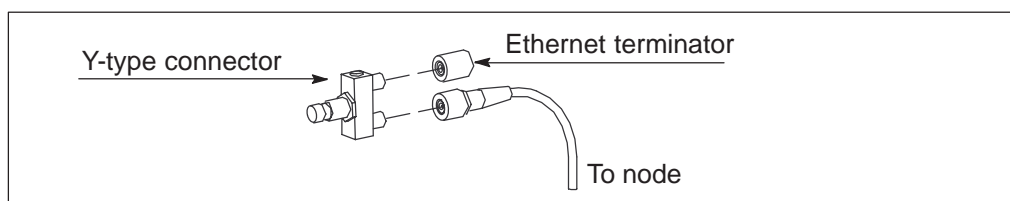

Figure 23 Terminating the Ethernet connection at the Y-type connector
If only one subrack is to be installed, terminate the other interface of the Y-type connector as shown in Figure 23.
- Terminate the Ethernet where necessary (Ethernet terminated at the Y-type connector; Figure 23).